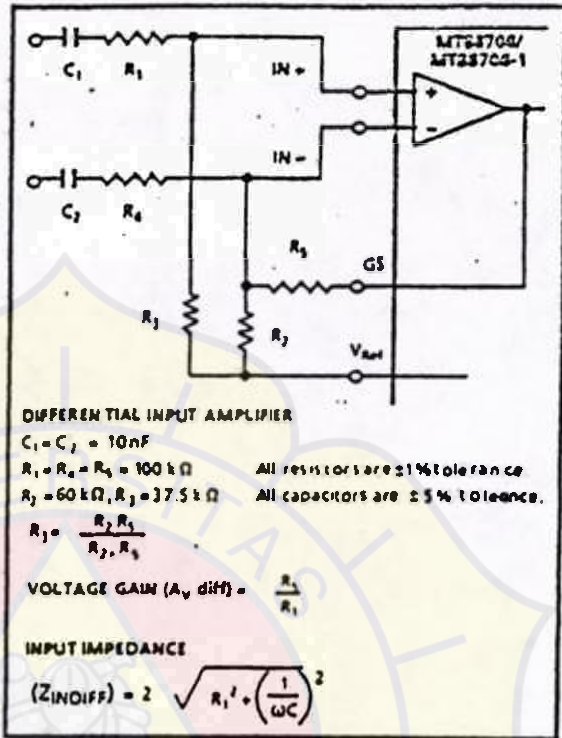

Figure 7- Differential Input Configuration
The input arrangement of the MT8870B/MT8870B-1 provides a differential-input operational amplifier as well as a bias source (V_{REF}) which is used to bias the inputs at mid-rail. Provision is made for connection of a feedback resistor to the op-amp output (GS) for adjustment of gain. In a single-ended configuration, the input pins are connected as shown in Figure 2 with the op-amp connected for unity gain and V_{REF} biasing the input at $\frac{1}{2}V_{DD}$. Figure 7 shows the differential configuration, which permits the adjustment of gain with the feedback resistor R_f .